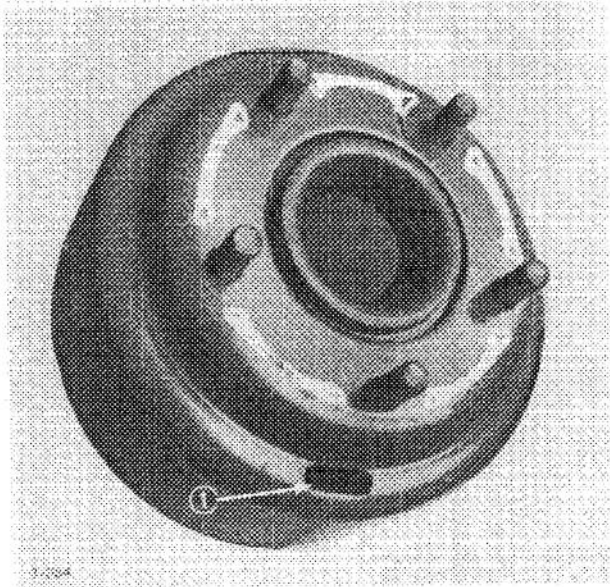
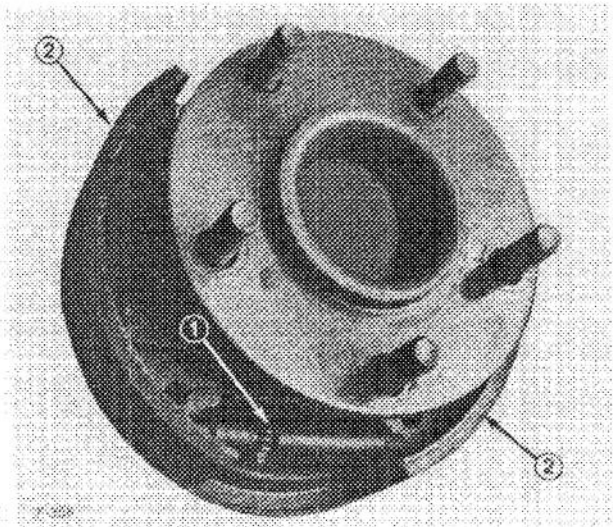

Figure 72
Figure 73
5. Remove wheel nuts and slide wheel and tire assembly off studs. Rotate brake drum until adjusting slot is at bottom and centered over star-nut that adjusts brake shoes (Fig. 72).
6. Using a brake adjusting tool or screwdriver, rotate star-nut (Fig. 73) down until brake drum (Fig. 72) locks because of outward pressure of brake shoes (Fig. 73).